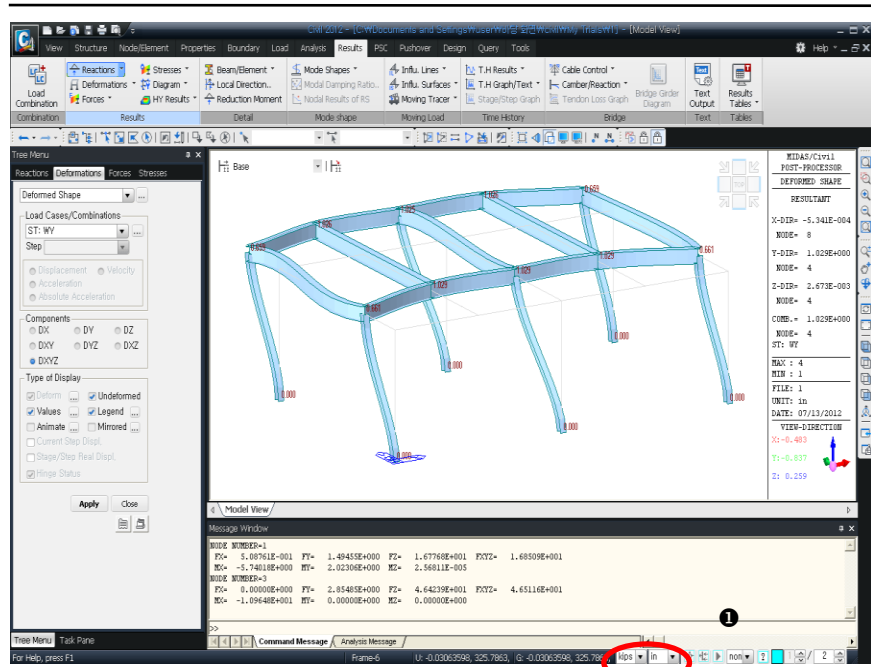

Figure 1.27 Deformed Shape (Scale Factor = 5.0)
5. Click  in the unit conversion button at the bottom of the window (Fig.1.27–①) and select “in”.